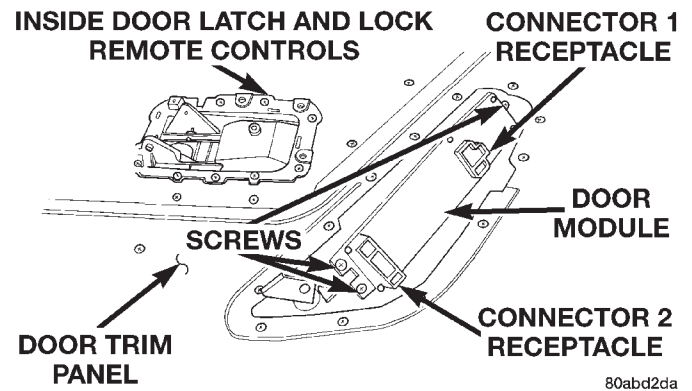

Fig. 4 Door Module Remove/Install
(4) Lift the front door trim panel upwards and away from the inner door panel far enough to disengage the top of the panel from the inner belt weatherstrip.
(5) Pull the front door trim panel away from the inner door panel far enough to access the inside door latch release and lock linkage rods near the back of the inside door remote controls.
(6) Unsnap the plastic retainer clips from the inside door remote control ends of the latch release and lock linkage rods, and remove the rod ends from the inside door remote controls.
(7) Unplug the wire harness connectors from the door module.
(8) Remove the trim panel from the front door.
(9) Remove the three screws that secure the door module to the front door trim panel (Fig. 4).